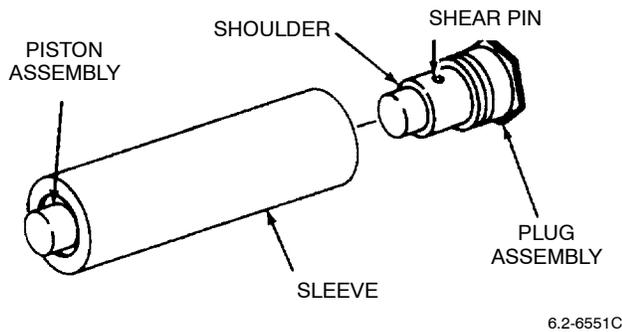

Figure 5. Trial Fit Plug
c. Trial fit plug into opposite end of sleeve assembly. Plug must insert without force or restriction up to shoulder (Figure 5).